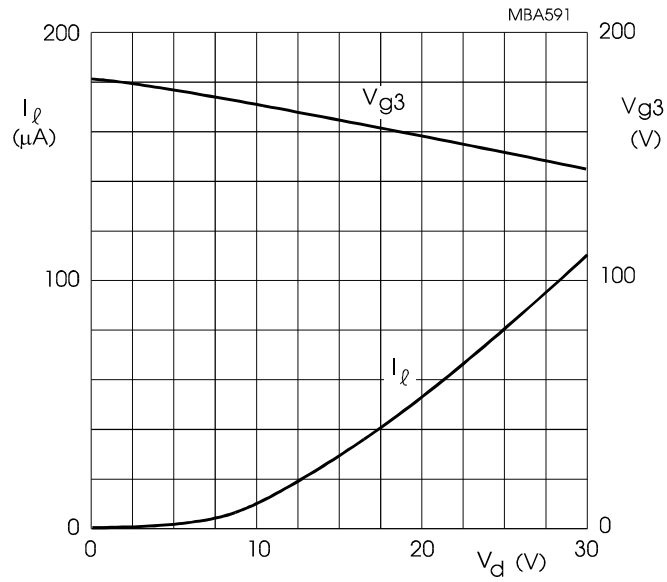

Fig.5 Typical screen current ( $I_l$ ) and focus voltage ( $V_{g3}$ ) curves as a function of grid drive voltage ( $V_d$ ) at  $V_{g2,g4,g5} = 2$  kV.
5. An actual focus range of 30 V should be provided on the front panel.  $V_{g3}$  decreases with increasing grid drive (see also Fig.5).
6. Intensity control on the front panel should be limited to the maximum useful screen current (approx. 50  $\mu$ A; see also Fig.5). It should be adjusted either by the grid drive voltage (up to 22 V) or for maximum acceptable line width. The corresponding cathode current or  $I_{g2,g4}$  (up to 500  $\mu$ A) depends on the cut-off voltage and therefore cannot be used for control settings.